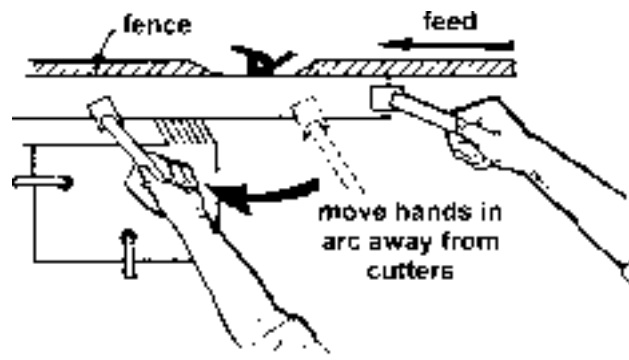

FIGURE 1
**HAND SAFETY:** Never pass the hands directly over, or in front of, the cutters. As one hand approaches the 12 inch radius point, remove it (or the push stick) in an arc motion and reposition hands 12 inches beyond the cutters (Figure 1).